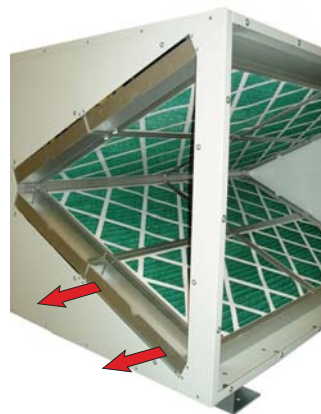

Figure 6.6
2. Pull the channel spacers straight out from the filter box to release the filters, see *Figure 6.6*.